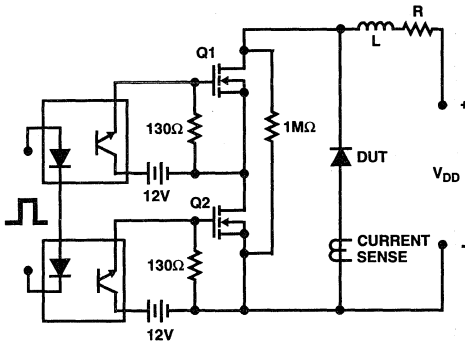
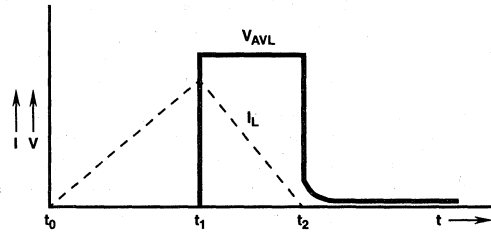

FIGURE 10. AVALANCHE ENERGY TEST CIRCUIT
FIGURE 11. AVALANCHE CURRENT AND VOLTAGE WAVEFORMS
- $E_{AVL}$  = Controlled avalanche energy (See Figure 10 and Figure 11).